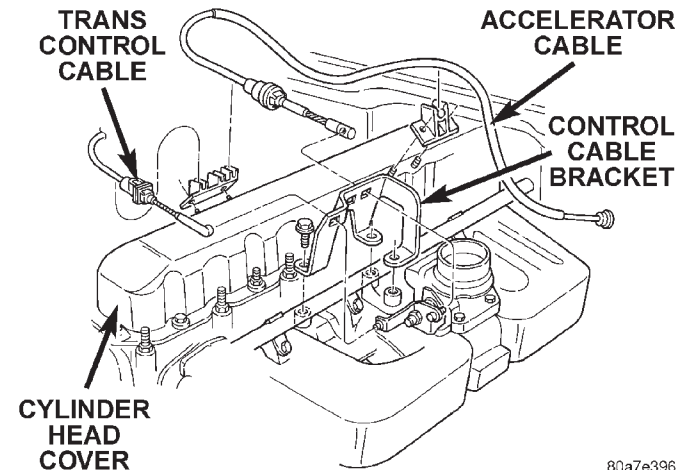

Fig. 31 Engine Cylinder Head Cover
(1) Disconnect negative cable from battery.
(2) Disconnect the Crankcase Ventilation (CCV) vacuum hose from engine cylinder head cover.
(3) Disconnect the fresh air inlet hose from the engine cylinder head cover.
(4) Disconnect the accelerator, transmission, and speed (if equipped) control cables from the throttle body (Fig. 31).
(5) Remove the three bolts that fasten the control cable bracket to the intake manifold.
(6) Remove control cables from cylinder head cover clip.
(7) Position control cables and bracket away from cylinder head cover secure with tie straps.
(8) Remove the engine cylinder head cover mounting bolts.
(9) Remove the engine cylinder head cover and gasket.